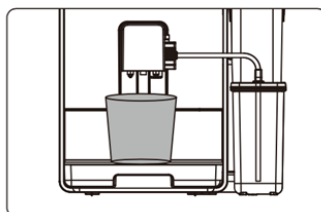

Fig. 7
positioned (Fig. 7). Check that there is enough water in the bean container (5) and beans in the bean container (8).